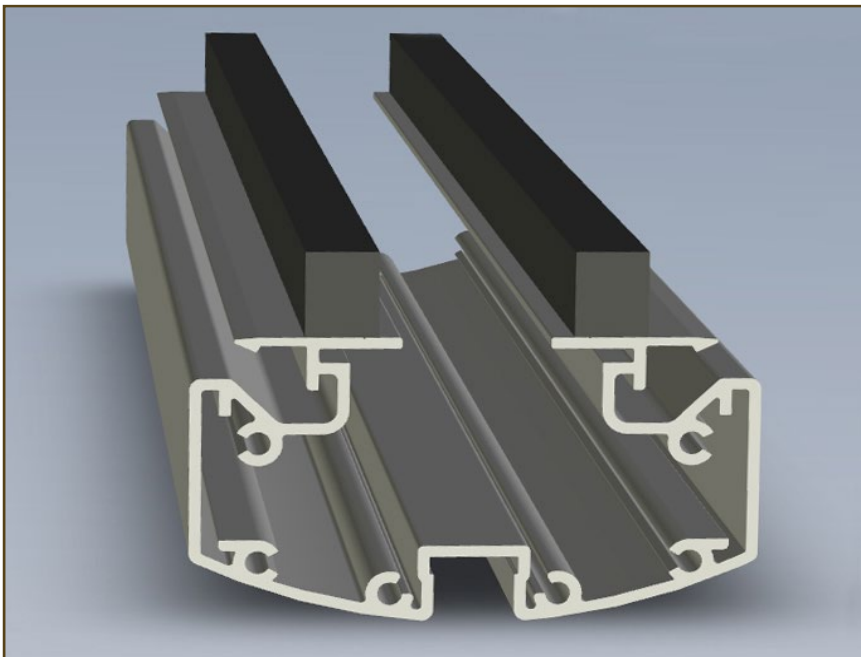

Figure 8. Glass Wall enhancement
4. Apply one (1) layer of $\frac{5}{8}$ " thick x $\frac{1}{2}$ " wide (16mm x 13mm) CSF tape continuously to top of Glass Wall Horizontal Extrusion on either side of Ceiling Track gap. CSF tape should be positioned on top Flanges so top Horizontal is capable of engaging Ceiling Track as well as to allow for Ceiling Trim engagement. See Figure 8 below.